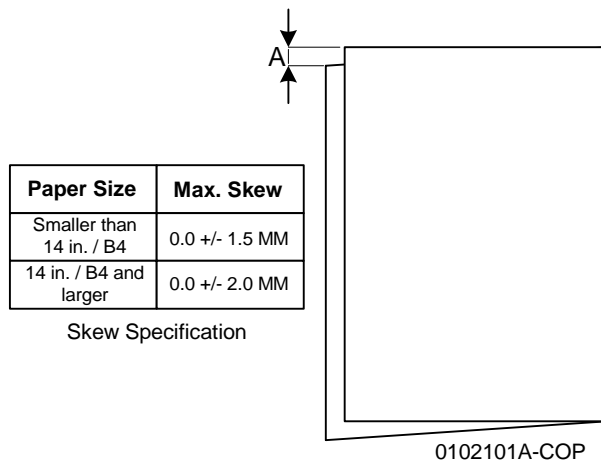

Figure 1 Skew Specification
- Measure the skew (A) on all sheets of paper and verify against the Skew Specification table in Figure 1.